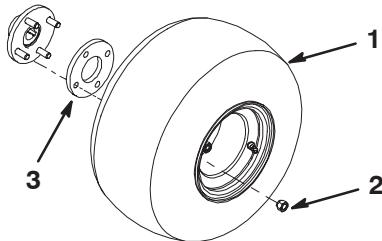

Figure 2
1. Remove the (8) lug nuts securing the rear of the aerator to the packaging.
2. Mount a wheel to each hub with (4) lug nuts (Fig. 2). Torque the nuts to 45–55 ft.–lb. (61–75 N·m).